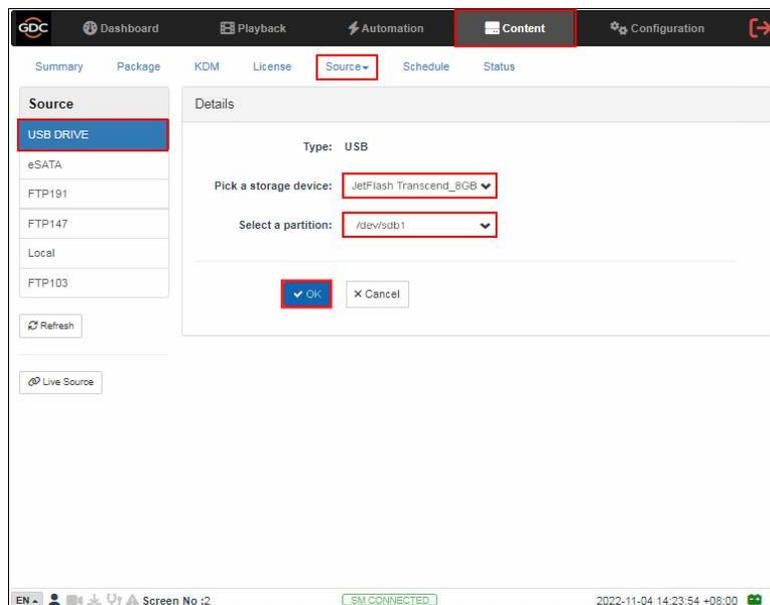

Figure 38: Select Ingest Source as USB Drive
12. Under the **Preferences** menu, select 'IMB'. Select 'GDC' from the **Type** drop-down (as shown in **Figure 38**).